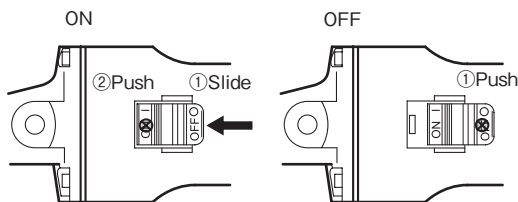

Fig.3
- Always be sure the unit is in the OFF position before plugging the power cord into an outlet. To start, slide the switch forward while pushing down it. (Fig.3)
- To stop, slide back the switch. (Fig.3)